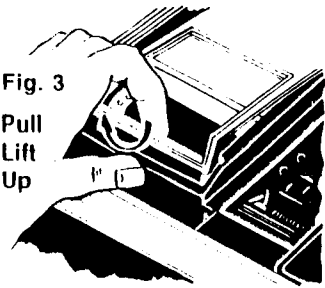

Fig. 4
- Remove top cover. See fig. 4.
- Unroll about nine (9) inches of chart paper.